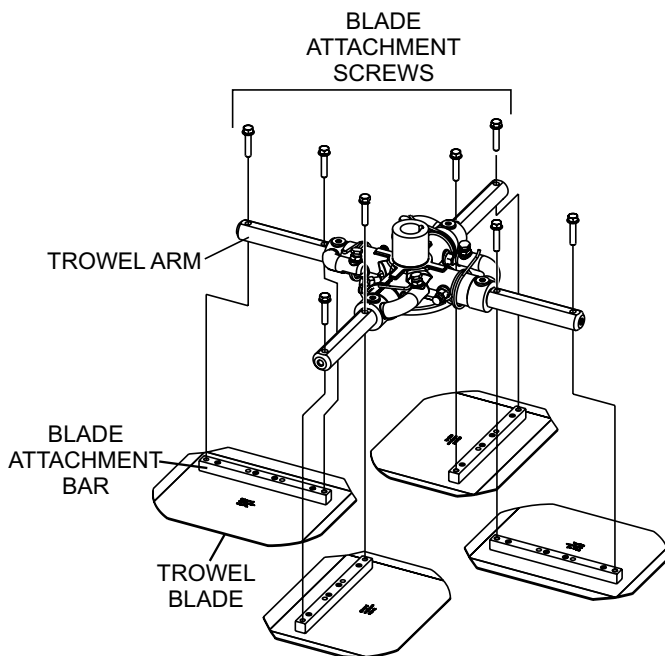

Figure 58. Blade Removal
2. Remove the bolts and lock washers from all the towel arms, and then remove the blades as shown in Figure 58.